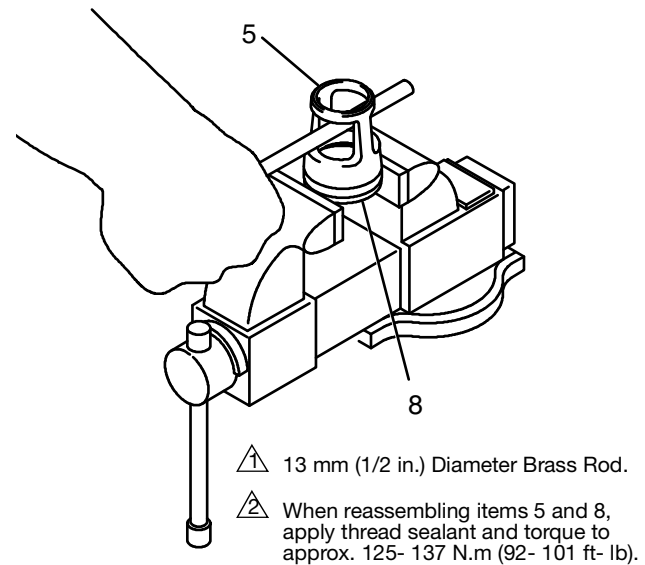

Fig. 9
14. Remove the displacement rod (1) from the vise and inspect it for scratches and scoring by running a finger over the surface.
15. Place the piston seat and guide assembly in the vise and close the jaws on the flats of the seat (8) just tight enough to hold the part. Slide a brass rod through the openings in the piston guide (5) and unscrew it from the seat as shown in Fig. 9. Remove the piston seal (7).
1. Install the intake valve seat (11) in the intake housing (17), with the large bevel of the seat facing the bottom of the housing. Lubricate the seal (39*) and install it in the housing. Set the intake housing aside.
2. Install the piston seal (7*) on the piston seat (8). Place the seat in a vise and close the jaws tight enough to hold it securely, without placing too much stress on the part. Apply thread sealant to the threads of the seat and the piston guide (5). Screw the guide onto the seat (8). Tighten using a brass rod until the guide is securely seated, approximately 125- 137 N.m (92- 101 ft- lb). See Figs. 9 and 11.
3. Place the flats of the piston (6) in a vise. Apply thread sealant to the threads of the rod (1) and the top threads of the piston. Set the piston seat/guide assembly onto the piston.
4. Screw the rod (1) into the piston (6) hand tight. Torque the rod to 459-481 N.m (338-354 ft- lb). There will be a small gap between the top of the piston (6) and the shoulder of the rod (1).
5. Apply thread sealant to the bottom threads of the piston and the top threads of the priming piston rod (12). Using an adjustable wrench on the flats of the rod, screw the rod into the piston. Torque to 125- 137 N.m (92-101 ft- lb). Be careful not to create burrs on the flats of the rod.